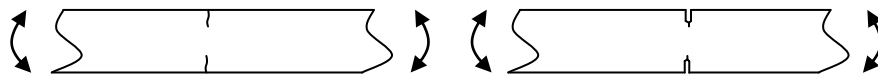

Figure Q4[a]
- Q4. [a]** The fatigue crack propagation rate of ‘natural’ cracks in a flat bar subject to alternating bending is to be investigated by carrying out tests on the same material, but the cracks are grown from a sharp starter slits as shown in Figure Q4[a]. *“Provided that the fatigue cracks are a reasonable length compared with the width of the slits, the stress intensity factors and the propagation rates in both cases should be the same.”* State whether the underlined statement is True or False and give your reasons.